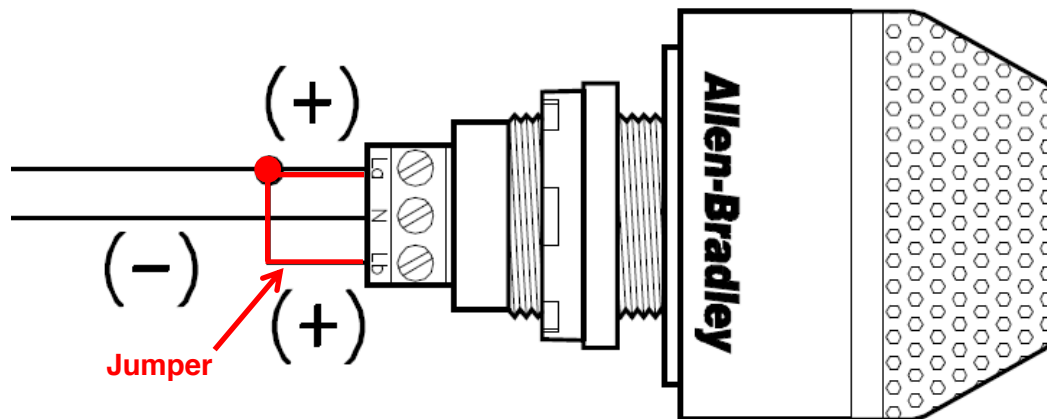

Figure 4-9
- C. The RSL must be wired for “solid light” operation, by placing a jumper between the La and Lb terminals on the light per Figure 4-9.